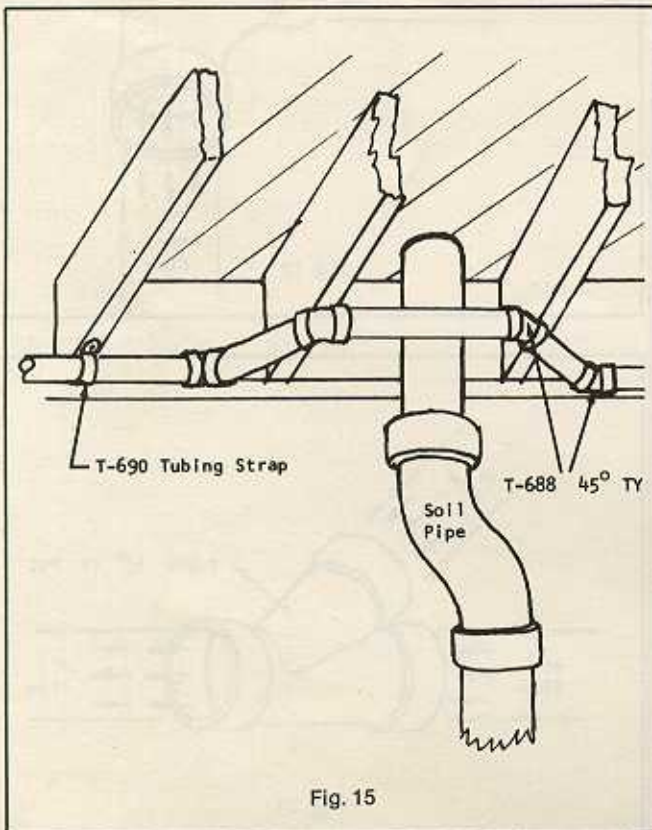

Fig. 15
(9) Using 45° fitting—45° fittings can be used to run PVC tubing around obstructions. They may be used in conjunction with other fittings. However, it is important that you use as few fittings as possible in order to cut down on air flow resistance. Fig. 15.